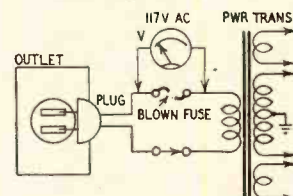

Fig. 4—The full line voltage is across the open fuse.
5. Changing any type of blown cartridge fuse with the power on may provide a nasty jolt if both ends of the fuse clip are touched (or, in some circuits, one end and the chassis). The full source voltage in the circuit is across the open fuse (Fig. 4). By touching both ends of the fuse clip the technician completes the circuit and places his body in series with the other circuit components. The amount of voltage across the body depends on the ratio of body resistance to the resistance of the other elements in the series circuit.